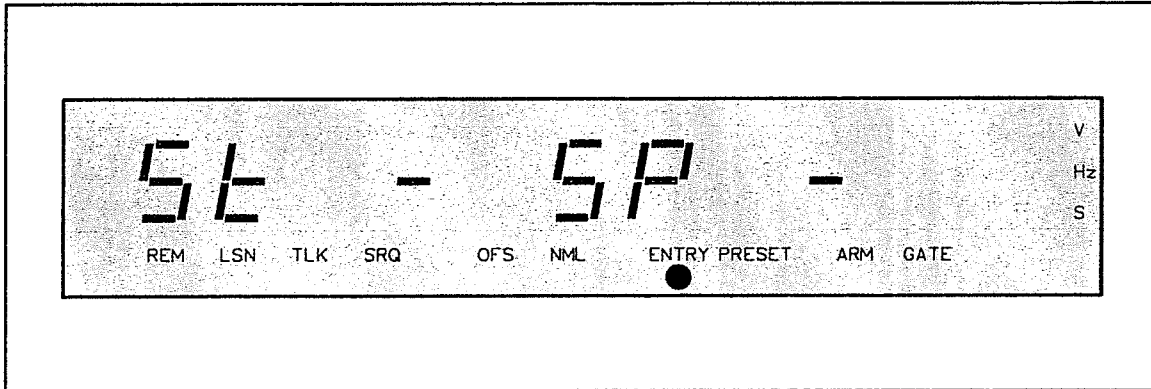
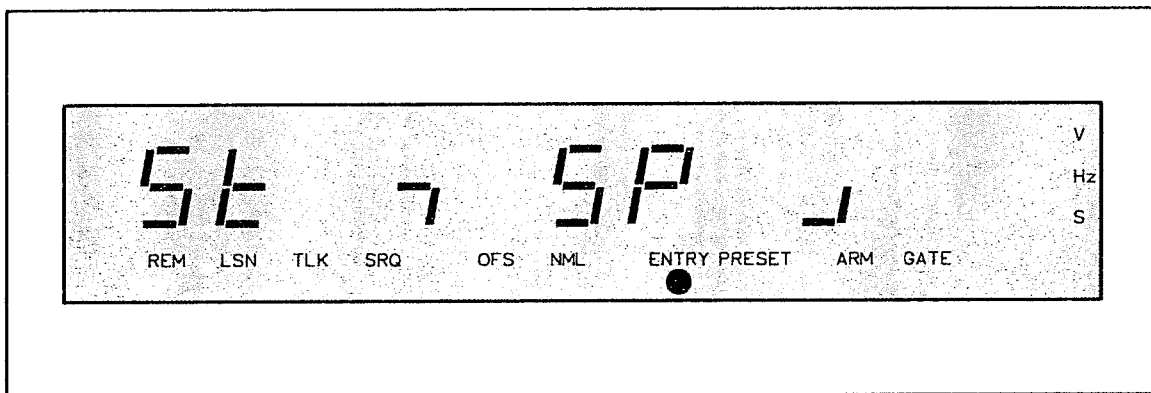

Figure 3-34. EXTERNAL ARM SELECT Entry Mode Display, Arming Off
Figure 3-35. EXTERNAL ARM SELECT Display, Arming States Selected
3-196. External arming can be used to specify the start and/or stop of a measurement, by a signal that is not directly involved in the measurement. When external arming is enabled, a signal must be connected to the ARM input connector to arm the gate to open and/or close. Pressing the EXT ARM SELECT key displays the arming status, shown in Figure 3-34, and allows the START ARM (open gate) and/or STOP ARM (close gate) states to be changed.
3-197. The arming status is represented as "St" (START ARM) and "SP" (STOP ARM). The states are defined by "—" (arming off), shown in Figure 3-34; and "∩" (arming set on negative slope), and "∪" (arming set on positive slope) as shown Figure 3-35 slope). The channel A SLOPE key controls the START ARM, and the channel B SLOPE key controls the STOP ARM.
2. The counter displays, “St” for start arm, “SP” for stop arm, and the current start/stop arm states (see *Figure 3-35*).
3. The ENTRY light flashes, indicating the arming states may be changed (see *Figure 3-35*).
*Figure 3-35* shows the EXT ARM SELECT entry mode display, with the START ARM set negative, and the STOP ARM set positive.